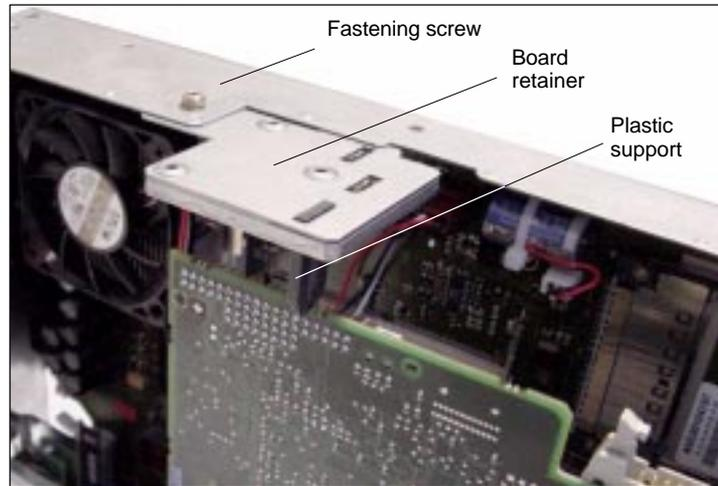

Fig. 2-3 Mounting of the module
6. Remove the fastening screw of the module holding-down device (Fig. 2-3) and remove the module holding-down device.